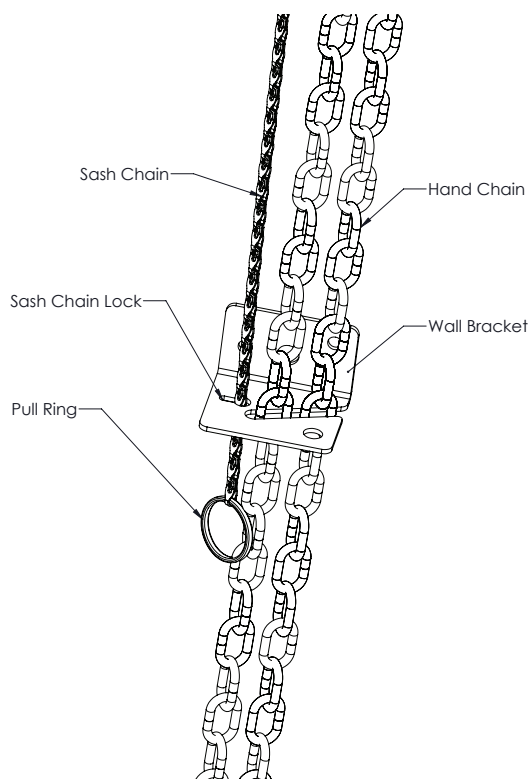

FIGURE 4
- 3. **Mount Manual Disconnect/Chain Keeper:** Using suitable hardware, mount the manual disconnect directly beneath the operator approximately four (4) feet above the floor. Install the sash chain on the spring that hangs from the operator and thread through the sash chain lock (Figure 4, page 5). Pulling down on the sash chain pull ring, should disengage the motor from door assembly allowing for manual operation.
1. Pull the sash chain down until it is tight. Then lock it into the sash chain lock in the wall bracket (Figure 4). This will disengage the motor. It will also engage the hoist mechanism if present.
3. To return to electrical operation, release the sash chain from the lock (Figure 4).